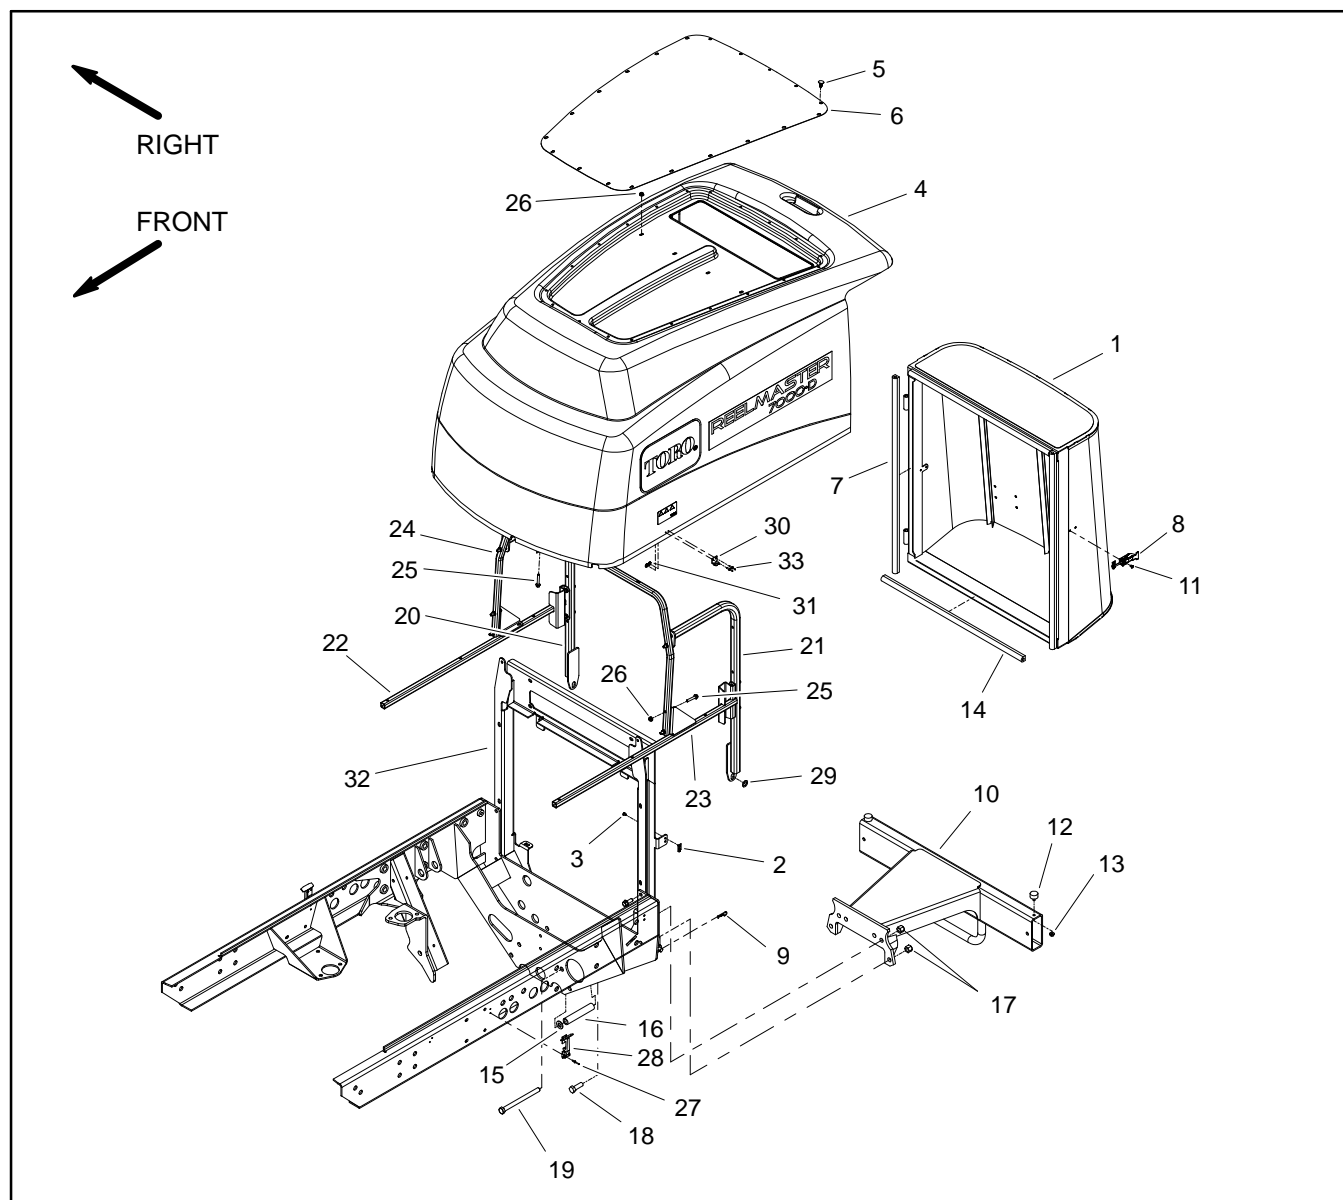

Figure 17
Removal (Fig. 17)
5. If necessary, disassemble hood using Figure 17 as a guide.
Installation (Fig. 17)
1. If components were removed from hood, assemble hood using Figure 17 as a guide.